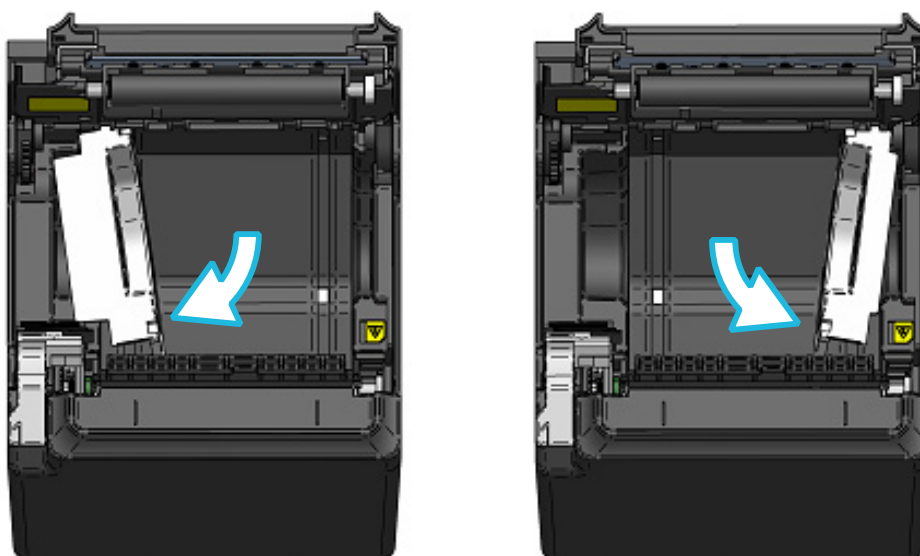

Figure 14-2 Partition Plate Installation (2)
- (4) Rotate the partition plate L and partition plate R within the paper holder in the direction of the arrow shown in Figure 14-2 to make the side surface of the paper holder and the partition plate in parallel.